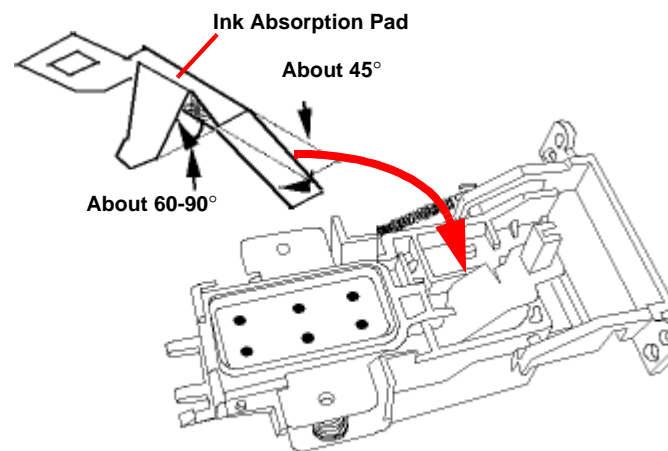

Figure 4-15. Setting the Ink Absorption Pad
- When assembling the Cap Assembly to the Ink System Assembly, make sure that the Ink absorption Pad has been set in the Cap Assembly. Refer to Figure 4-15.